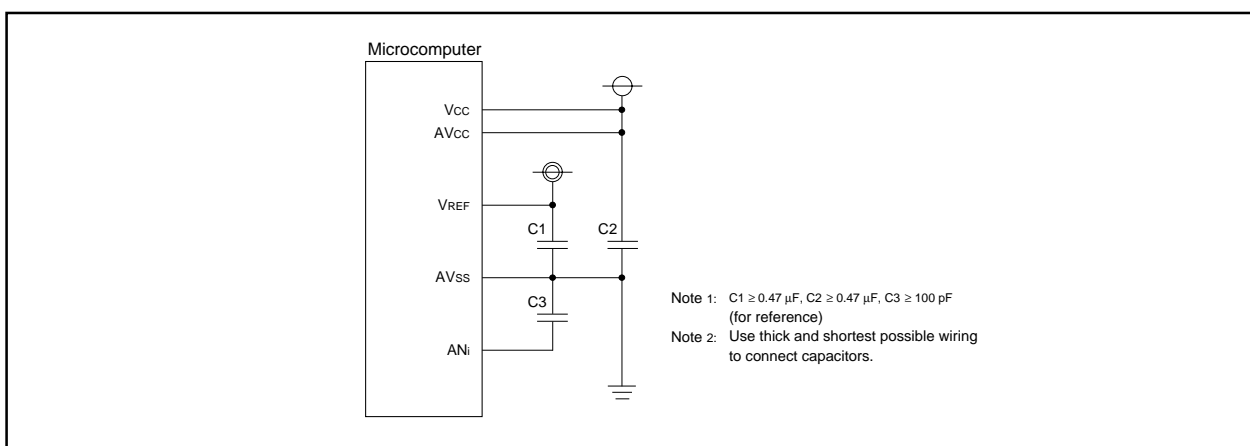

Figure 2.8.16. Use of capacitors to reduce noise
- (2) To reduce conversion error due to noise, connect a voltage to the AVcc pin and to the VREF pin from an independent source. It is recommended to connect a capacitor between the AVss pin and the AVcc pin, between the AVss pin and the VREF pin, and between the AVss pin and the analog input pin (ANi). Figure 2.8.16 shows an example of connecting the capacitors to these pins.